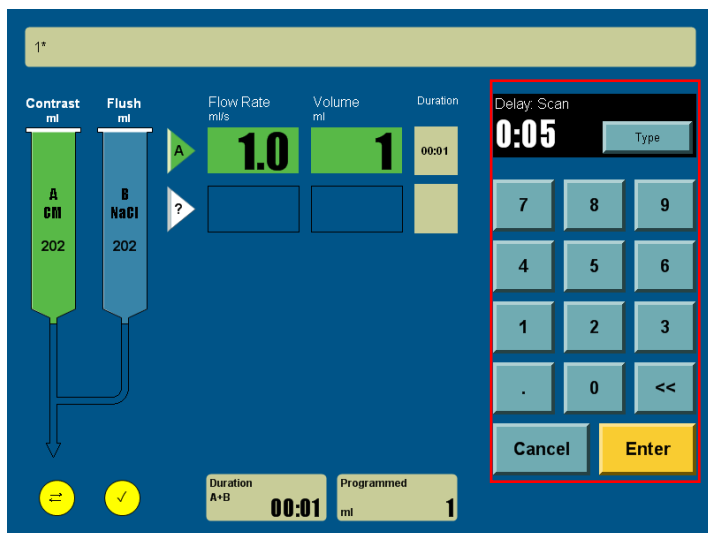

Figure 40
**Scan Delay:** The scan delay time will start counting after the injection begins, see Figure 40. The time of the Scan Delay will be displayed in the time frame in which the time length gradually increases to the set value in one second increment. When the set value is reached, a prompt tone will be heard.